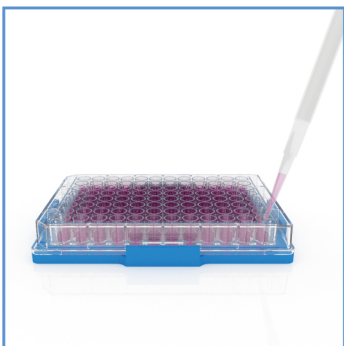

Figure 2: Use the holding drive to hold 3D cultures as you add and remove liquids
- 3.4. After bioprinting, remove the plate off the spheroid drive and transfer it back to the incubator for the length of the experiment. The spheroids can be cultured up to 3 weeks. If necessary, replace the media in the wells after 2-3 days of culture or as needed (4. Media exchange, Figure 2).
After culturing, standard tissue processing techniques can be performed on the 3D cultures, such as fixation, paraffin embedding for immunohistochemistry, or RNA isolation for qRT-PCR. If media exchange is necessary, use the holding drive to hold the 3D cultures down while aspirating liquids (Figure 2). The holding drive is designed that one magnet is adjacent to 4 wells, therefore holding the spheroids at the side of the well to pipette liquids out of the well without loss of the spheroids more easily.